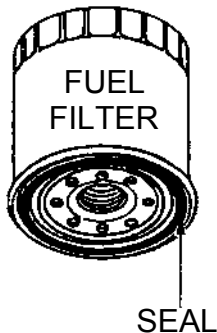

Figure 25. Fuel Filter
1. Set a container under the fuel filter cartridge (Figure 25) to catch spilled fuel.